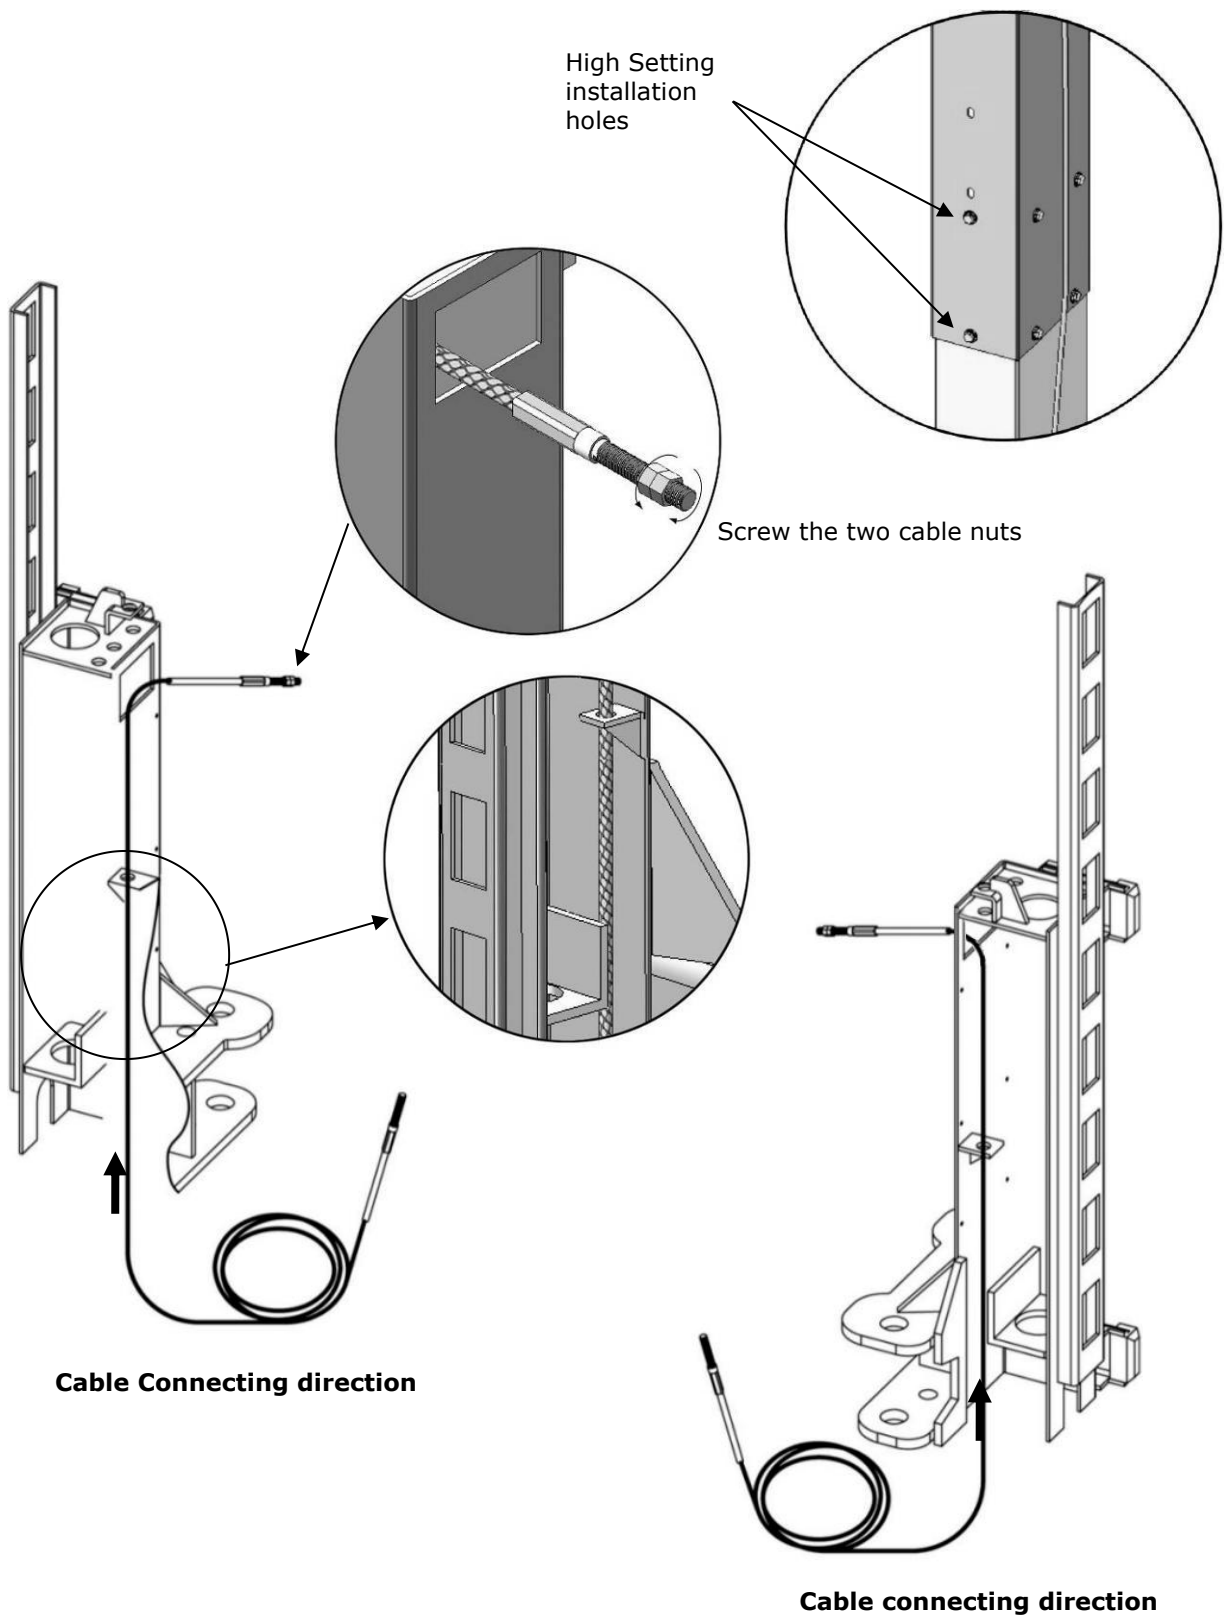

Fig. 27
2.1. Cable pass through from the bottom of the carriages and be pulled out from the open of carriages, then screw the two cable nuts (**See Fig. 27**).